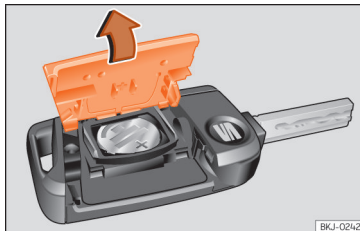

Fig. 133 Vehicle key: opening the battery compartment.
- Remove the cover from the back of the vehicle key » **Fig. 133** in the direction of the arrow » .
- Fit the cover as shown » **Fig. 133**, pressing it onto the vehicle key casing in the opposite direction to that shown by the arrow until it clicks into place.